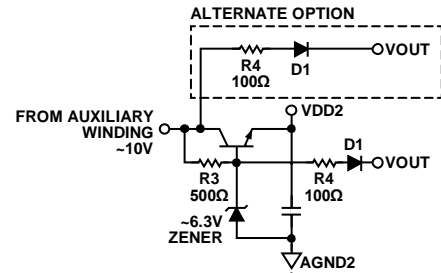

Figure 17. Recommended Circuit to Guarantee Hiccup Mode
- When VDD2 is powered through auxiliary winding or another configuration, when a short circuit occurs on the output terminals, the auxiliary winding is not shorted and maintains a positive voltage above the VDD2 UVLO threshold. To enter hiccup mode, the following circuit is recommended, as shown in Figure 17. The circuit operates as follows: when the output voltage goes low due to a short circuit, the D1 diode turns on, which pulls the base of the bipolar junction transistor (BJT) low, shutting off VDD2. The system then enters hiccup mode, as described in the Remote System Reset section.